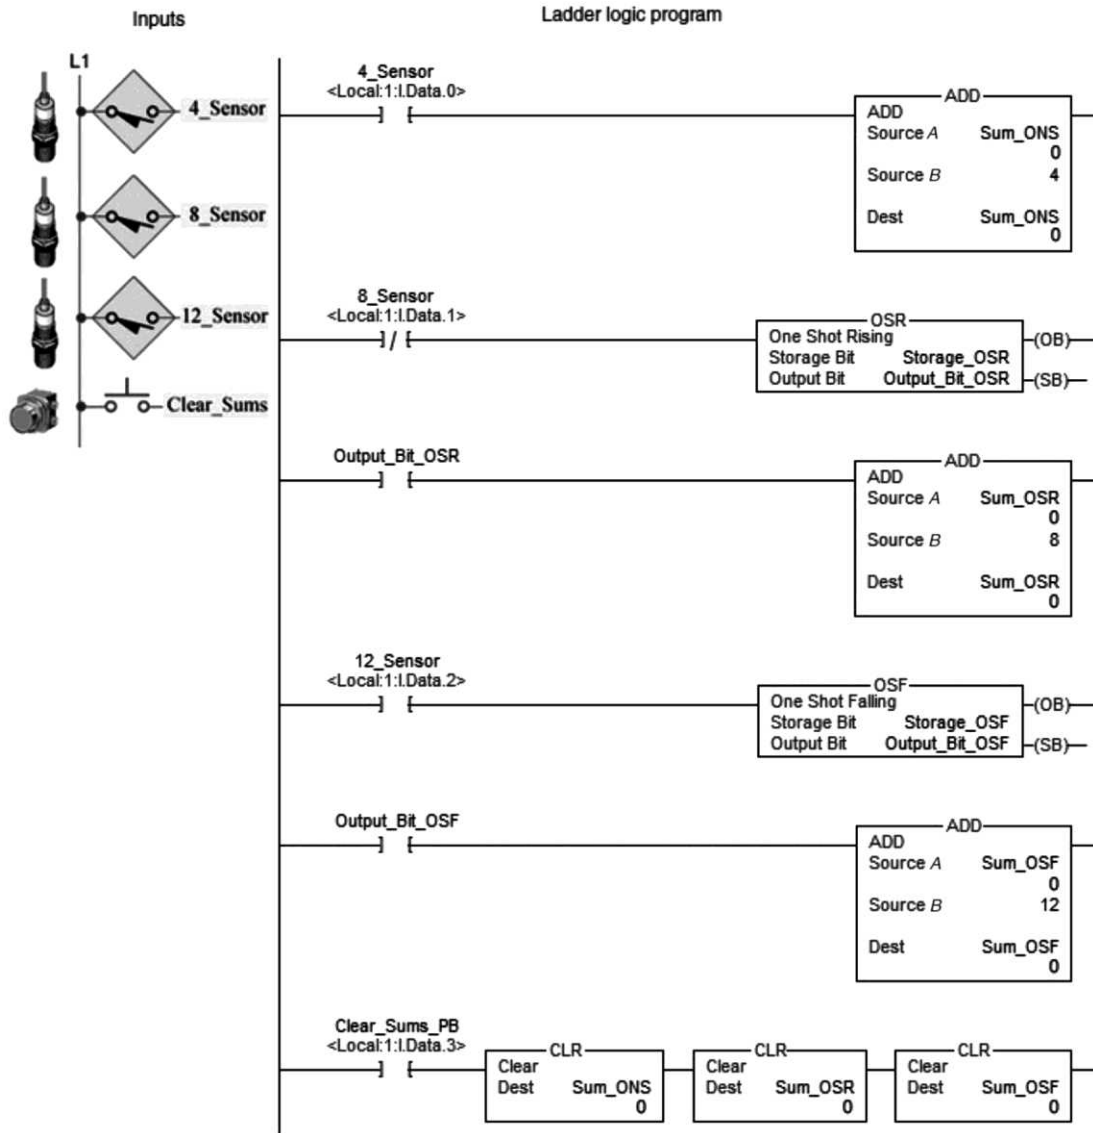

Figure 15-21 One-shot instructions program for assignment 8.
8) The one-shot instructions, used in conjunction with math operations, are shown in the program Figure 15-21. Its operation is described in the text.